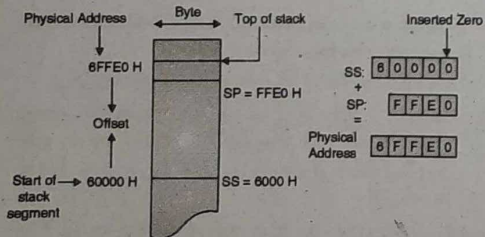

Fig. 1.6.3 : Physical address generation of stack
- After adding SP i.e. offset in to it, the resultant physical address for the top of the stack will be 6FFE0 H as shown in Fig. 1.6.3. This can be represented as SS:SP.